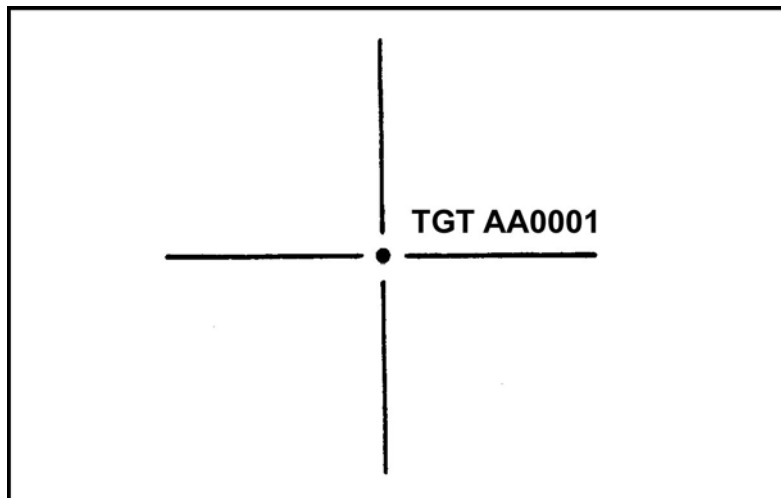

Figure 4. Last Plot, Registration Point 1
- (4) Place a "2" in the RDS EXP column.
- c. The FO sends, "Add (drop) 25, fire for effect, end of mission." The computer plots this correction and determines the data, erasing all but the last plot from the board. The last plot marks the target (TGT) and is given a target number (Figure 4).